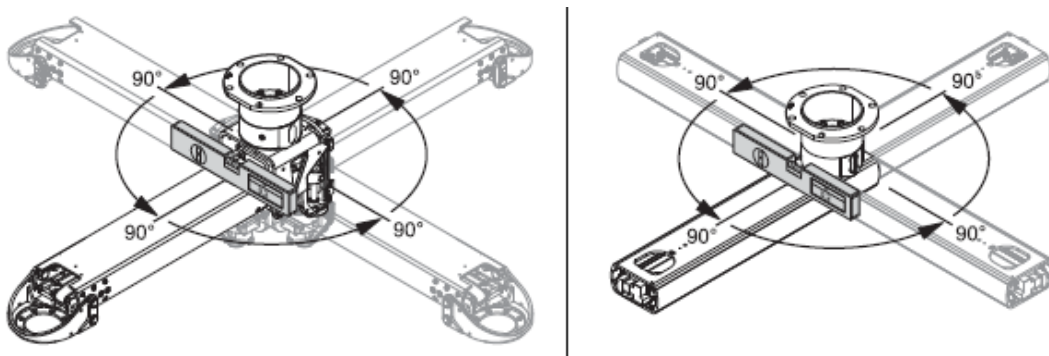

Fig. 32 Checking the horizontal alignment of the outriggers
- Check the horizontal alignment of the extension arms. Place the digital spirit level at right angles to the direction of the arm (near the flange ③). Rotate the arm 90 degrees in various directions and check the horizontal alignment. See Fig. 32.